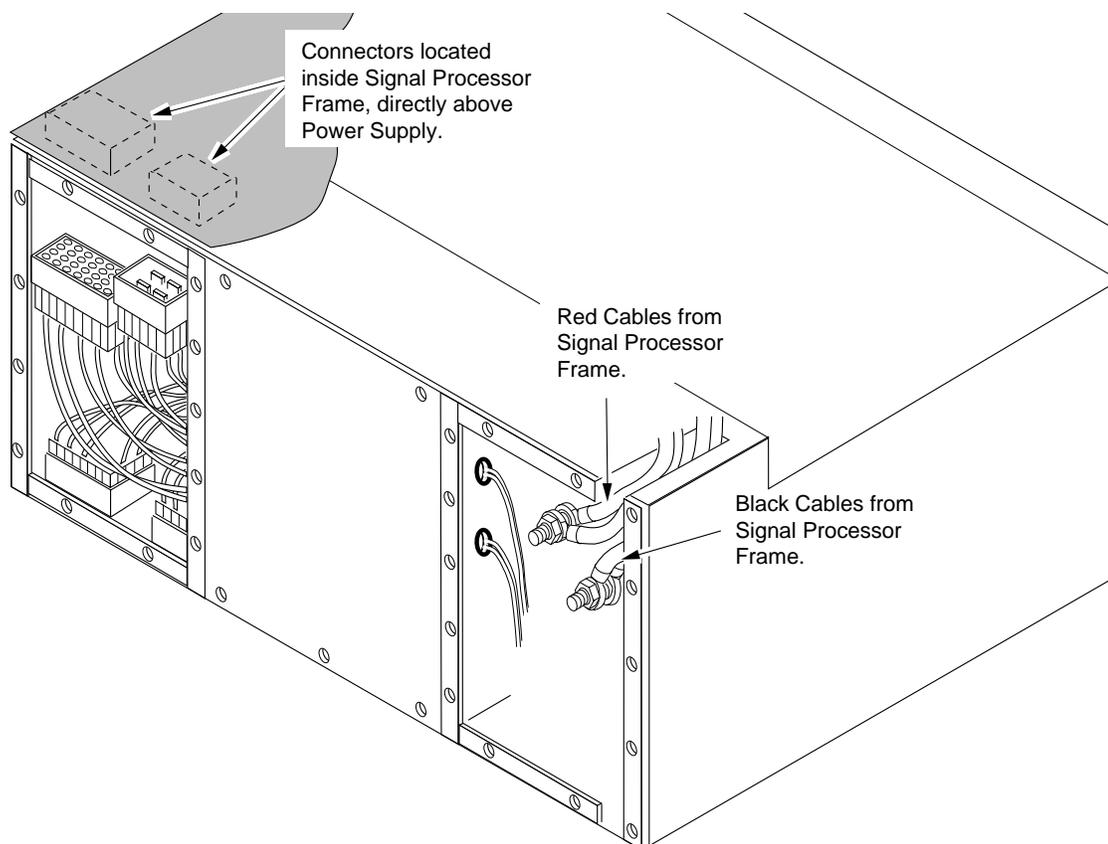

Figure 2-10. Frame Power Supply Connections
11. Connect the two large black cables running down from the right rear of the Signal Processor Frame to the right post (see Figure 2-10) and secure with the nut and lockwasher removed previously.